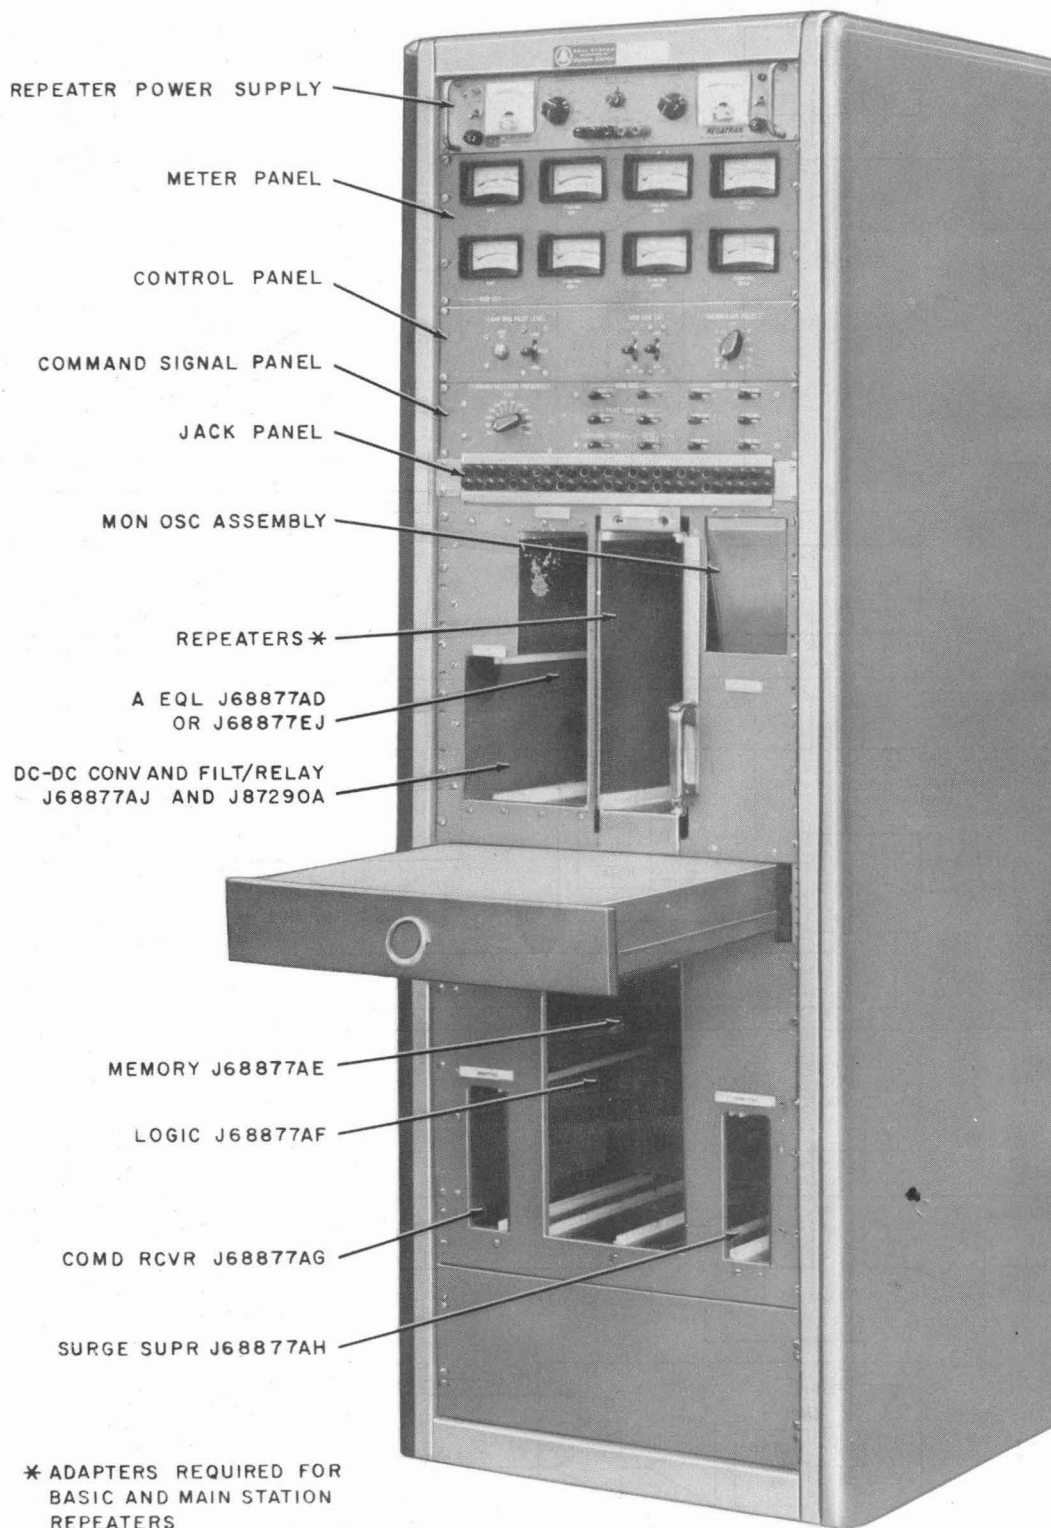
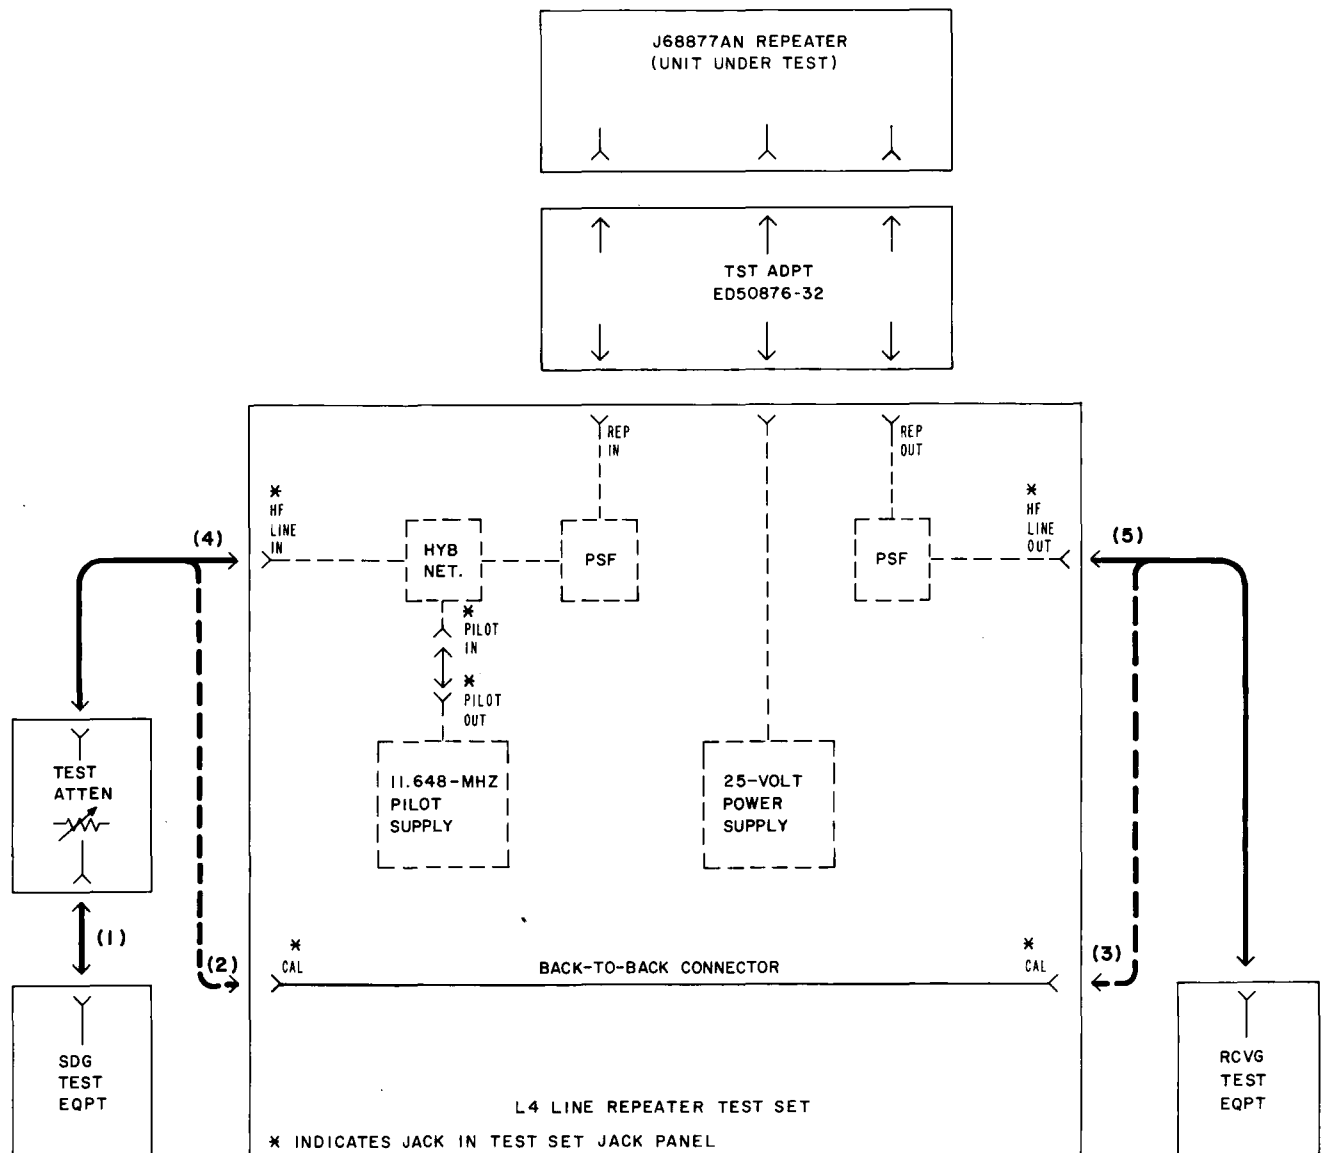

Fig. 3—L4 Line Repeater Test Set J68906B
Fig. 4—Test Arrangements Using L4 Line Repeater Test Set
Operation of the L4 line repeater test set should be verified as prescribed in Section 103-458-100 (J68906B) or Section 103-458-101 (J68906C) before proceeding with these tests. The J68906B test set is shown in Fig. 3; test arrangements are shown in Fig. 4. For transmission measurements, sending and receiving test equipment normally provided at the L4 main station is used.
14	Patch the sending test equipment (STE) output through the test attenuator and back-to-back connector to the receiving test equipment (RTE) [patches (1), (2), and (3), Fig. 4]. Note: The CAL jacks on the test set jack panel are connected to form a back-to-back connector.
18	Transfer the attenuator output from the CAL jack to the HF LINE IN jack [patch (4), Fig. 4].
19	Transfer the RTE from the CAL jack to the HF LINE OUT jack [patch (5), Fig. 4].